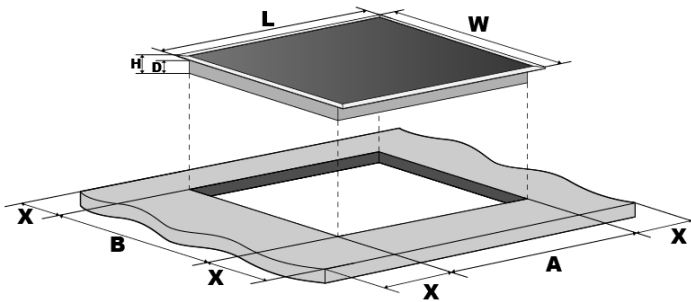

Fig 1
- Cut the work surface according to the dimension shown in the above table (Fig.1)
- A minimum of 50mm space shall be kept around the hole (refer to “X” in Fig.1)